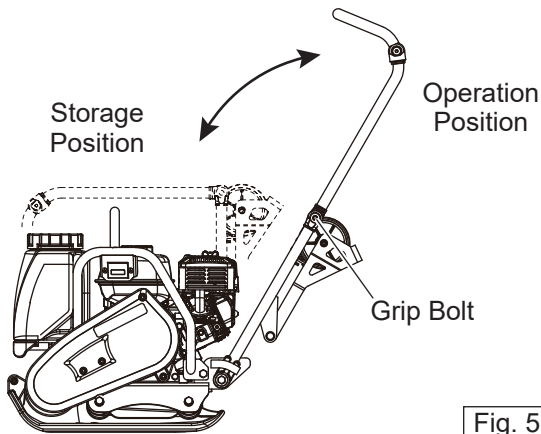

Fig. 5
- Check the VAS folding handle to fix at storage or operation position. When fixing the handle position, tighten the grip bolts certainly. (Fig. 5)